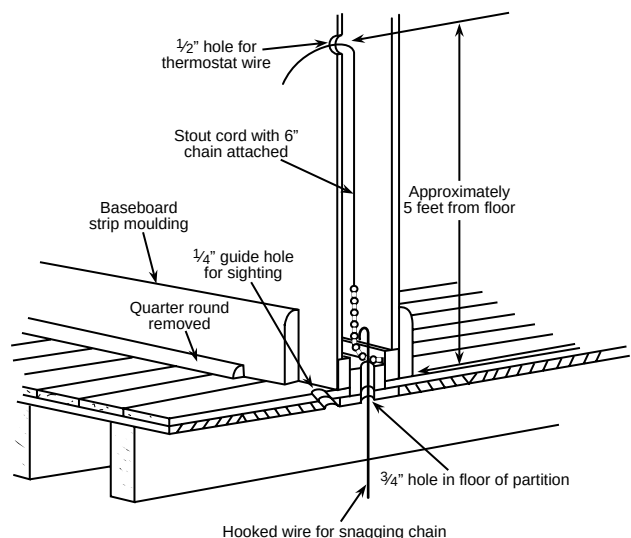

Figure 1. Routing thermostat wires
1. Probe for obstructions in partition before drilling $\frac{1}{2}$ " hole in wall at selected location. Take up quarter round and drill a small guide hole for sighting (see fig. 1). From basement, drill $\frac{3}{4}$ " hole in partition floor next to guide hole. In buildings without basements, drill $\frac{1}{2}$ " hole through ceiling and into partition from above.